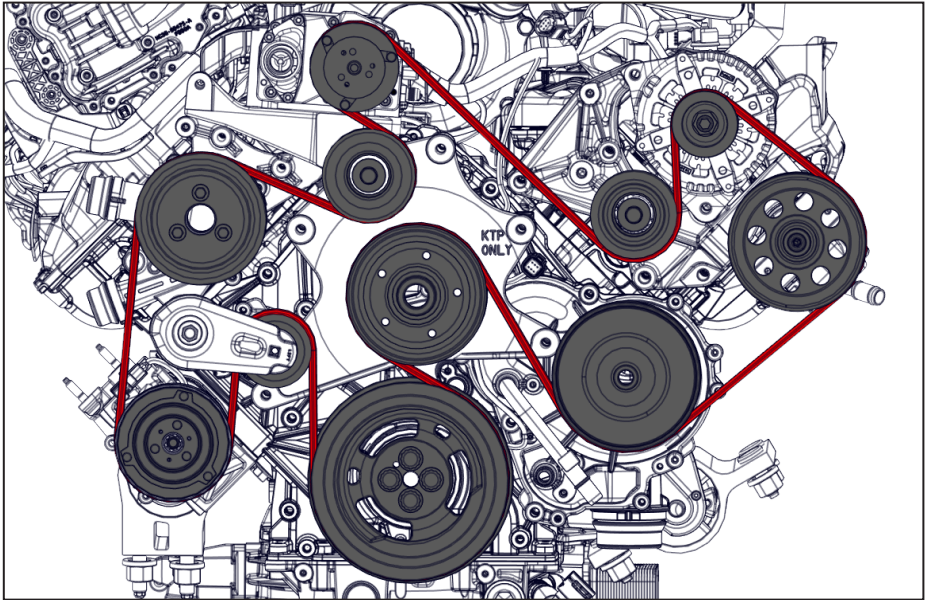
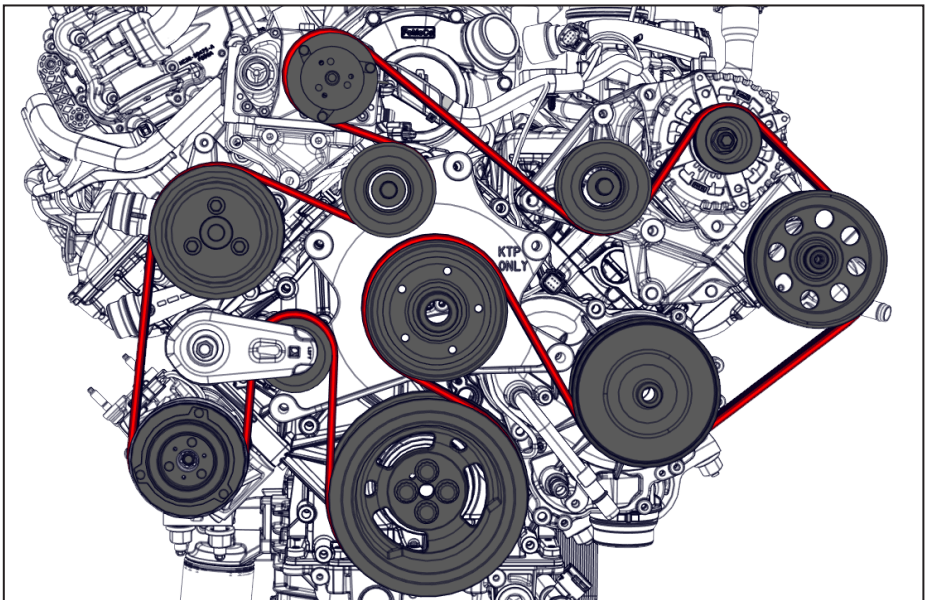

Figure 19 — Belt routing
Figure 20 — A900022 Belt routing
- Install and tension the VMAC supplied FEAD belt (Figure 19, Figure 20).